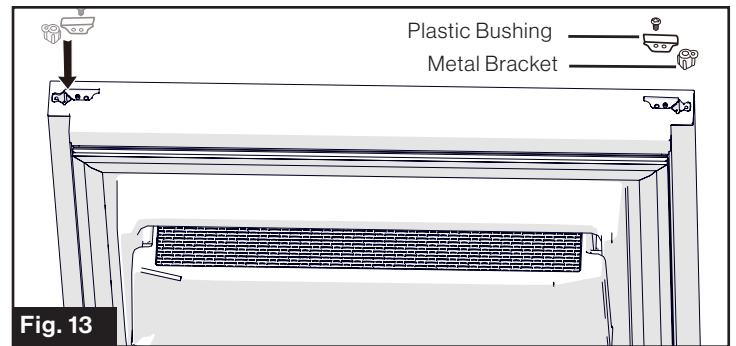

Fig. 13
5. Reverse the Metal Bracket and Plastic Bushing on the bottom of Refrigerator Door. (Fig. 13)